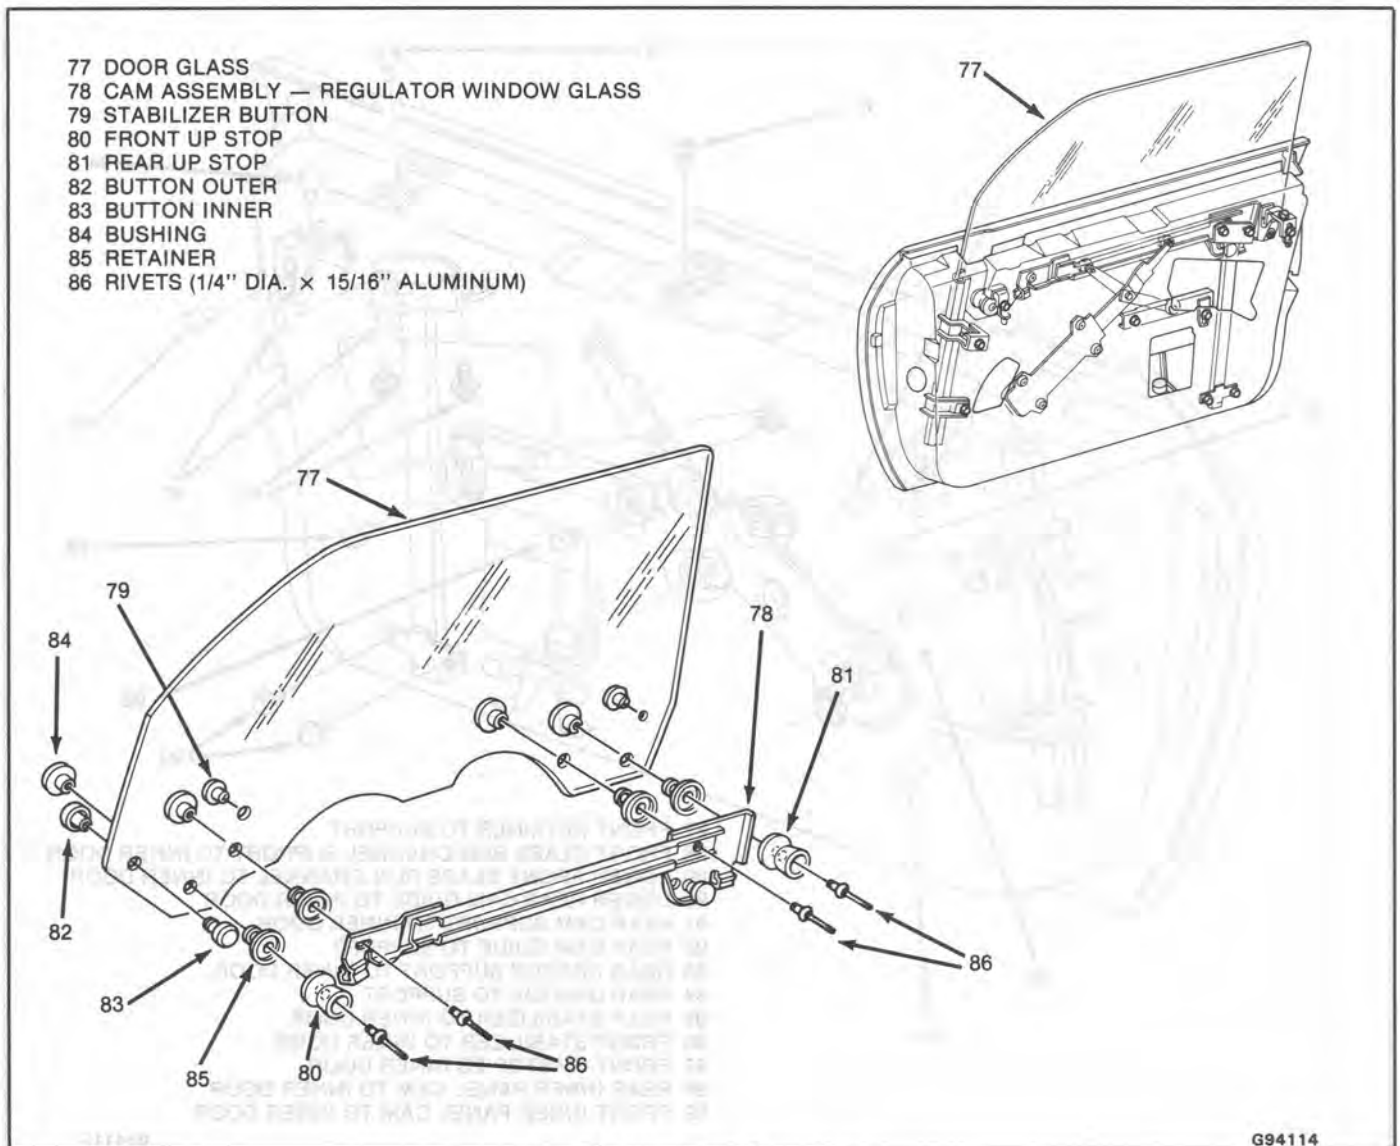

Fig. 22-Door Glass Assembly
**DOOR GLASS ASSEMBLY** **Remove or Disconnect (Figure 22)**
5. Rivets (86)
- Front stop (80)
- Rear stop (81)
9. Glass (77)
**Install or Connect (Figure 22)**
2. Glass to cam assembly (78)
4. Rivets (86)
**Window Regulator Cam Assembly** **Remove or Disconnect (Figures 22, 23)**
4. Rivets from cam assembly (78)
5. Separate glass from cam assembly (78)
10. Regulator cam assembly (78)
**Install or Connect (Figures 22, 23)**
1. Regulator cam assembly (78)